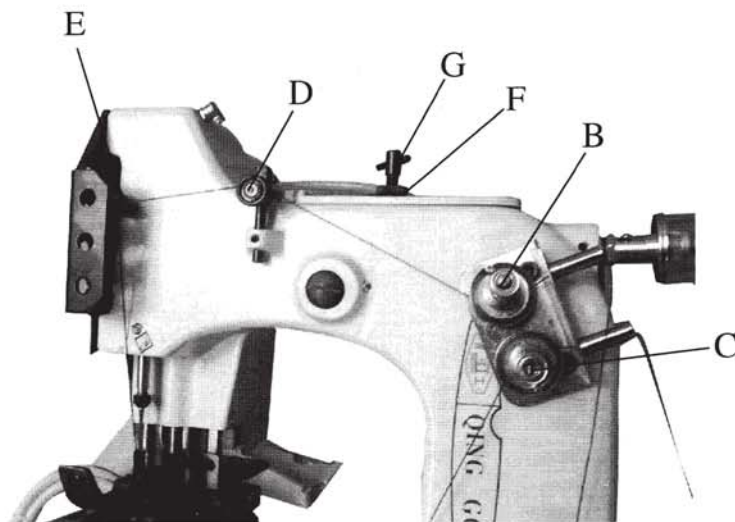

图 10 Fig.10
压脚压力的大小，取决于缝料的厚度，缝薄料时须减少压力；反之，则增大压力。当缝料推送顺畅，针迹均匀时切勿再增大压力，以减缓机件磨损。调节压力时旋进调压螺钉(G) (图10)，调节合适后旋紧锁母(F) (图10)
缝线张力由夹线器(图10, B、C)调节, 通常面线(B)张力要比底线(C)的张力大。旋进夹线器螺母(B、C)使张力增大, 旋出则减少。
Thread tension is adjusted by thread tension assembly(B. C. Fig. 10). Tension of upper thread(B) is generally stronger. Than that of lower thread (C). Turn thread tensioner nut (B. C) in to increase the tension, turn it out to decrease the tension. If the stitch is still not good, should adjust the height of thread adjusting bar (D). The height of the thread adjusting bar (D) is at the same level with the thread eye of the needle bar connection at its highest position.